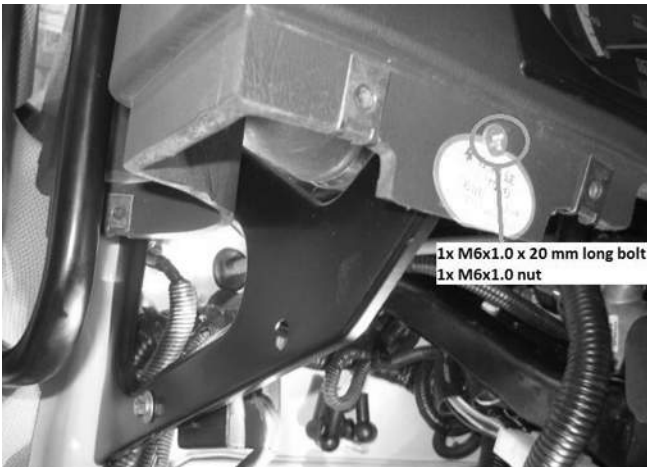

Figure 3-1
1. Remove the bolt/nut assembly on both LH and RH sides of instrument panel and set aside for reinstallation (see *Figure 3-1*).